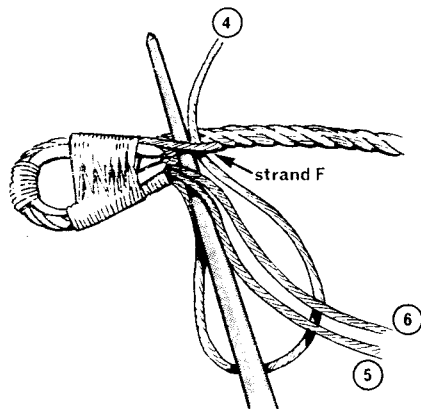

Fig 9.9 Splicing a Hard Eye (5)
- Locate the strand on the standing part that is nearest to where the first tucking strand protrudes from the lay of the rope—strand F in Fig 9.9—and lever it clear with the ice pick inserted against the lay.
- Take up the tucking strand *farthest from and above* the ice pick—strand 4 in Fig 9.9—and tuck this strand against the lay of the rope.